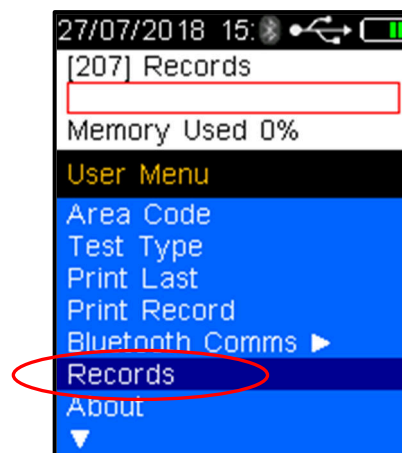

Figure 55 – Records
- Using the down button, scroll down to *Records* (Refer to Figure 55 – Records Figure 55).